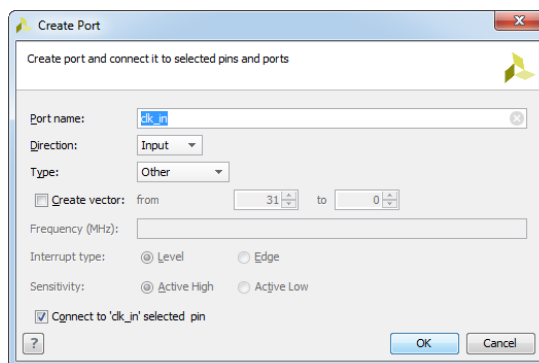

Figure 31. Create Port dialog box
- In the **Create Port** dialog box, make sure the "Connect to 'clk_in'seleted pin" is checked, leave all other parameters unchanged and click **OK**, see Figure 31